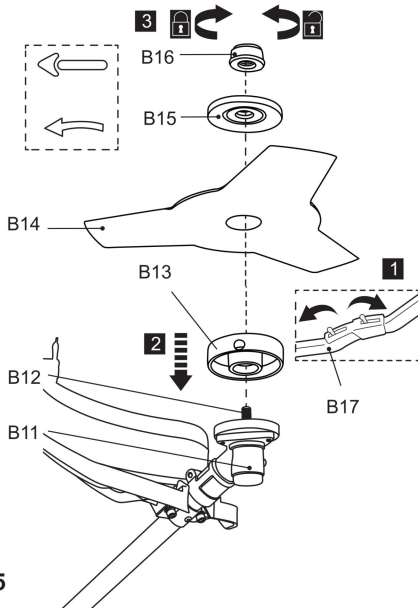

Fig. 5
7) Tighten the nut (B16) to secure the cutter blade counterclockwise while locking the spindle (B12) with the hex key (E5). Remove the hex key afterward (Fig. 5).